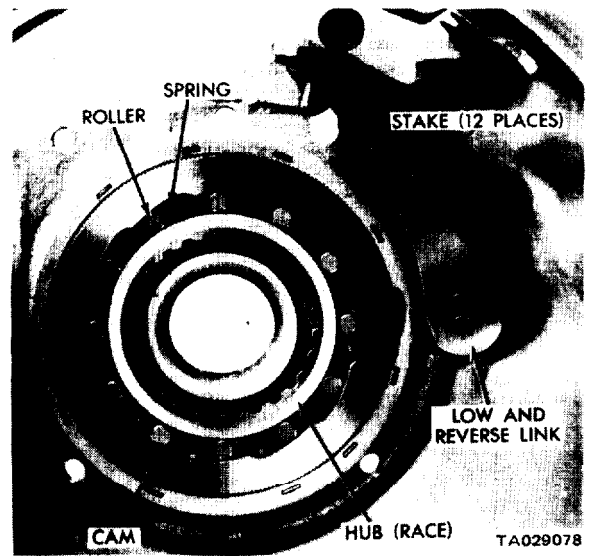

Figure 18-24. Overrunning Clutch, Low and Reverse Band Link.
a. Inspection. See figure 18-24. Inspect the clutch rollers for smooth, round surfaces. They must be free of flat spots and chipped edges. Inspect the roller contacting surfaces in the cam and race for damage. Inspect the roller springs for distortion, wear, or other damage. Inspect the cam setscrew for tightness. If loose, tighten and restake the case around the screw.
stall the overrunning clutch rollers and springs exactly as shown in figure 18-24.